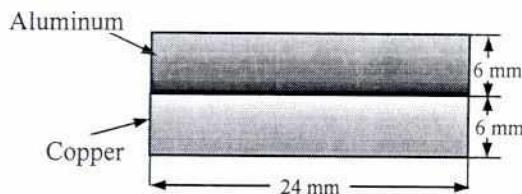

Fig. 4
- Q4 (a) A copper strip ($E_{cu} = 105 \text{ GPa}$) and an aluminum strip ($E_{al} = 75 \text{ GPa}$) are bonded (10) together to form the composite beam, having cross-sectional dimensions as shown in Fig. 4. Knowing that the beam is bent about a horizontal axis by a bending moment of 35 N-m. Find the maximum stresses in aluminum and copper. Also plot the distribution of stress across the section.